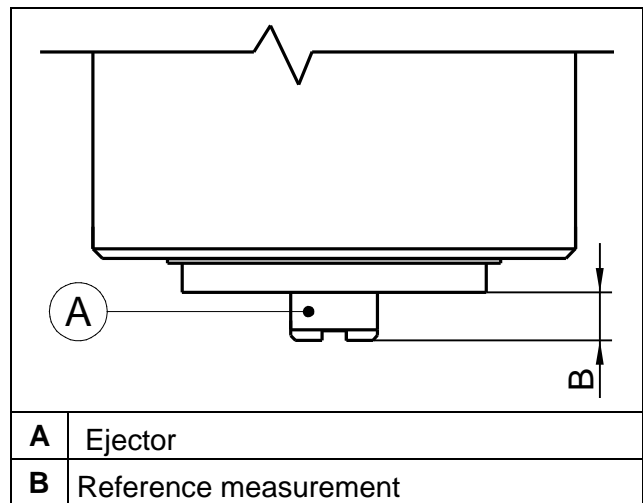

Figure 12.19
2. Use a depth callipers as shown in Figure 12.19 to check whether distance **(B)** from the tip of the ejector to the nose of the spindle at its maximum is **10.5 ± 0.1 mm**. If it is not, do NOT proceed but contact the HSD Customer Assistance Service.
6. If necessary, slacken off the fixing screw (6) for sensor S2.
7. Turn the seat (4) of sensor S2 until the sensor gives a "high" signal (24V) with **(B) = 10.3 ± 0.1 mm** and a "low" signal (0V) with **(B) < 10.3 ± 0.1 mm**. Hold the sensor seat firmly in this position.
9. Tighten the screw (6) to secure the sensor fixing bracket (5).
**Contact the HSD Customer Assistance Service if distance (B) is not 10.3 ± 0.1 mm when you feed compressed air at 6/7 bar (85/100 PSI) into the cylinder.**